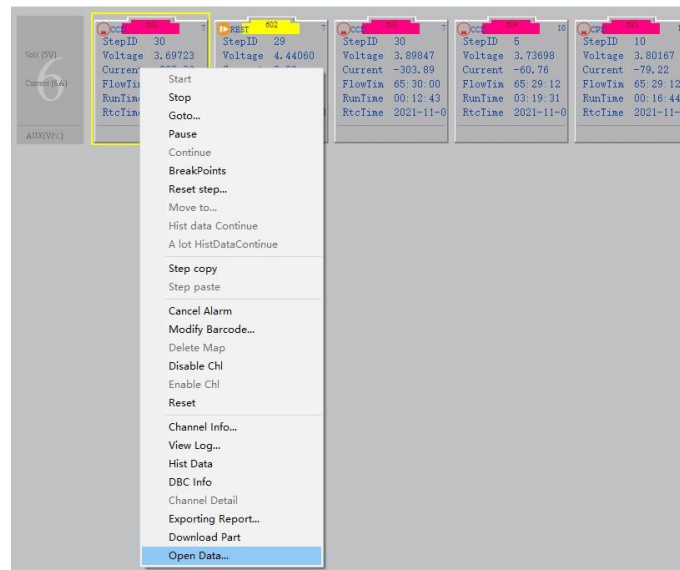

Figure 6-2 Open data display interface
2. View data: The client automatically invokes the data analysis software to view and analyze the current channel data. Select the data channel to be viewed → right-click → "View Data" to open the test data of the channel and view, compare, and analyze the test data as shown below: (Figure 6-2)